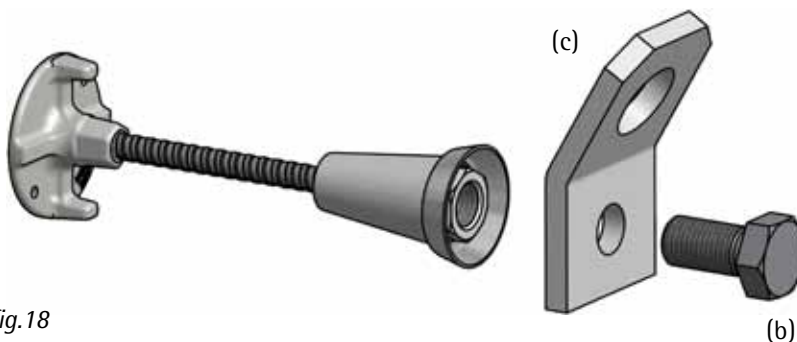

fig.18
4. Fixation tension belt (fig. 18)